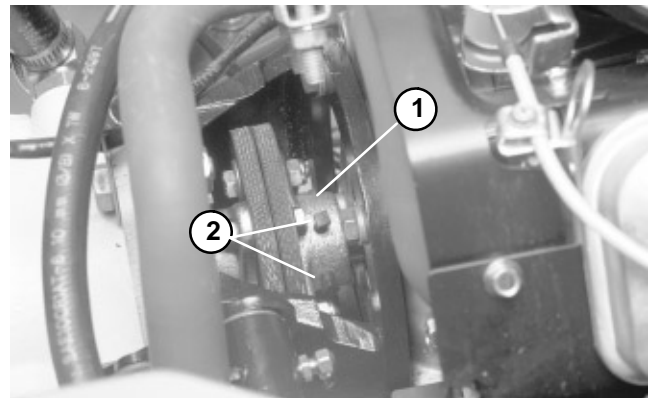
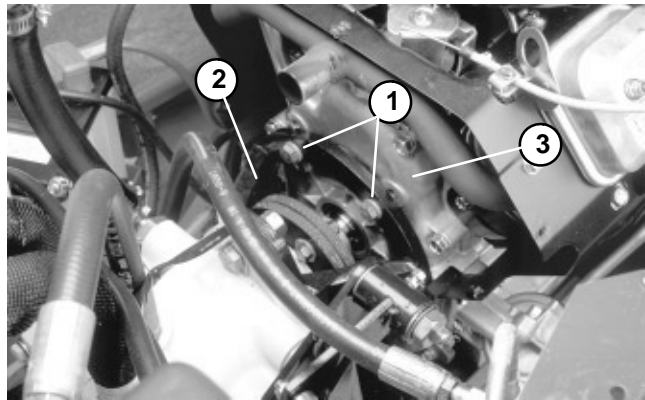

Figure 40
Figure 41
10. Loosen both set screws on the engine hub to remove hub from the pump shaft (Fig. 40).
11. Remove four cap screws and lock washers securing the pump mount to the engine block. Pull pump and mount from the engine and secure to frame. Remove square key from engine shaft (Fig. 41).
12. Remove hex nut (5), lock washer (11), and cap screw (13) securing the black (–) battery cable (26) and wire harness (43) ground wire to the engine block. Pull cable and harness clear of the engine (16).
13. Remove three hex nuts (5), flat washers (3), and cap screws (13) securing the engine (16) to its base (15).
1. Install engine (16) to the engine base (15).
- C. Insert cap screw (13) through engine base and engine block. Install lock washer (11) onto cap screw with battery cable (26) and wire harness (43). Screw hex nut (5) onto the cap screw.
- D. Insert cap screws (13) through engine base and engine block. Install flat washers (3) and screw hex nuts (5) onto the cap screws. Do not tighten fasteners at this time.
3. Position pump and pump mount to the engine. Make sure engine hub slides onto the engine shaft and square key (Fig. 40). Secure pump mount to the engine block with four cap screws and lock washers (Fig. 41).
4. Tighten both set screws securing the engine hub to the engine shaft (Fig. 40).